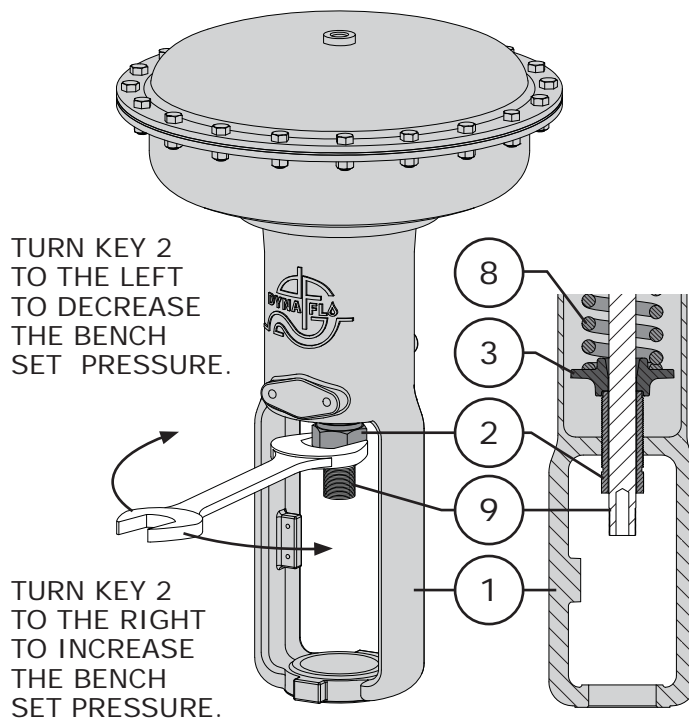

Figure 4 Spring Adjustment
- 2 Remove all spring tension by turning the spring adjuster (Key 2) counter-clockwise (to the left) until removed from the yoke (Key 1). Refer to Figure 4. For handwheels or travel stops, refer to Page 18.